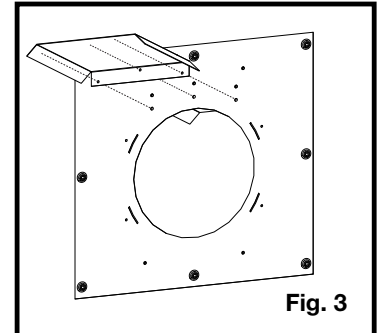

Fig. 3
3. Install the other vent shield on the opposite side of the firestop spacer (**Fig. 3**).